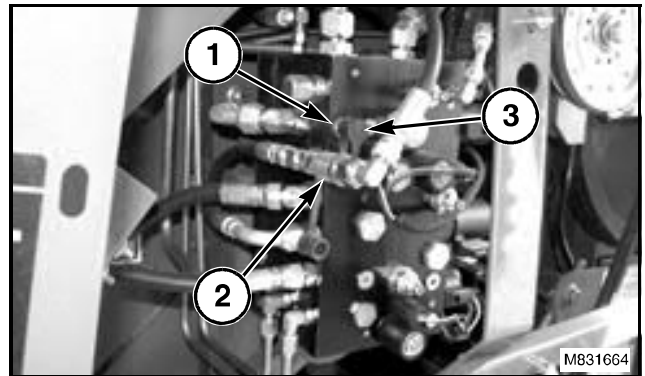

FIG. 10
FIG. 10: Axial Machine - If a corn head is going to be attached to the machine, disconnect the variable speed quick coupler from the hydraulic coupler (1). Connect the quick coupler (2) to the male coupler at the reel lift port in the main hydraulic valve. Install the dust cap (3) onto the hydraulic coupler.